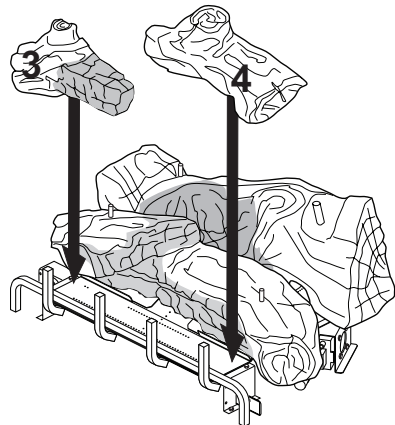

Figure 25 - Installing Logs #3 and #4
3. Place front left log (#3) onto pan burner between log #2 and grate. **Back of log #3 should fit against front of log #2.** Place front right log (#4) onto pan burner between log #2 and grate. Logs #3 and #4 have notched ends to fit over end of pan burner as shown in Figure 25. **Back of log #4 should fit against front of log #2.**